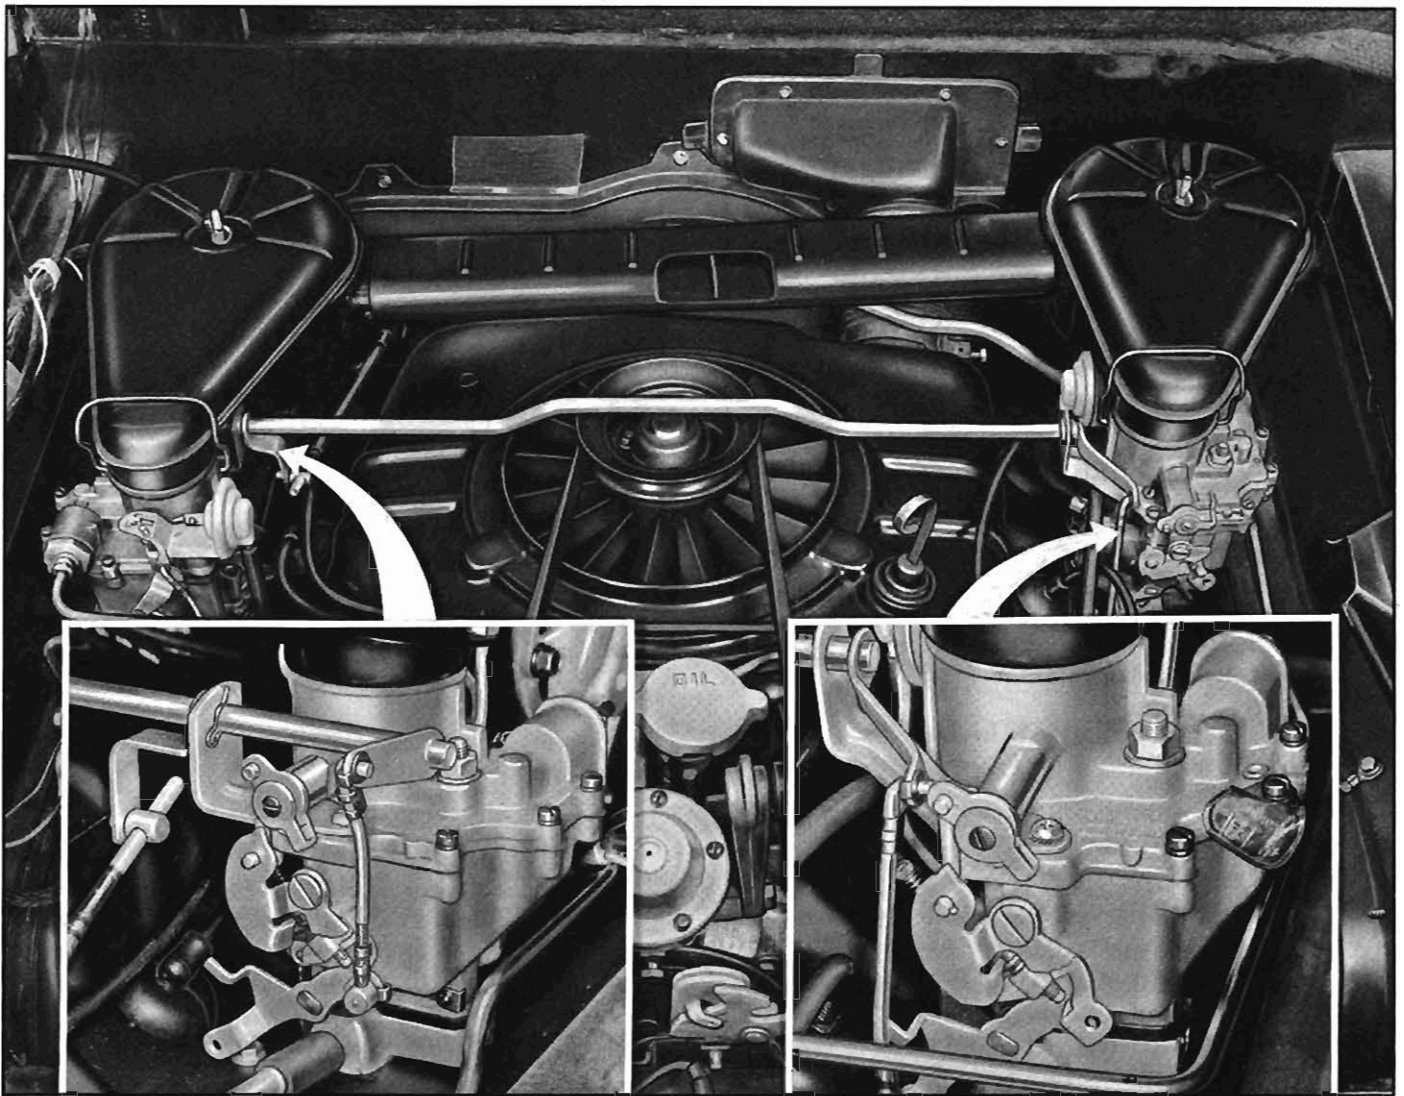

Fig. 4—Cross-Shaft and Carburetor Linkage
(Refer to Figure 4)
- c. Connect vacuum gauge to adapter (fig. 4) on vacuum balance tube. (Remove transmission vacuum line on automatic transmission and cap on synchromesh from balance tube adapter.)